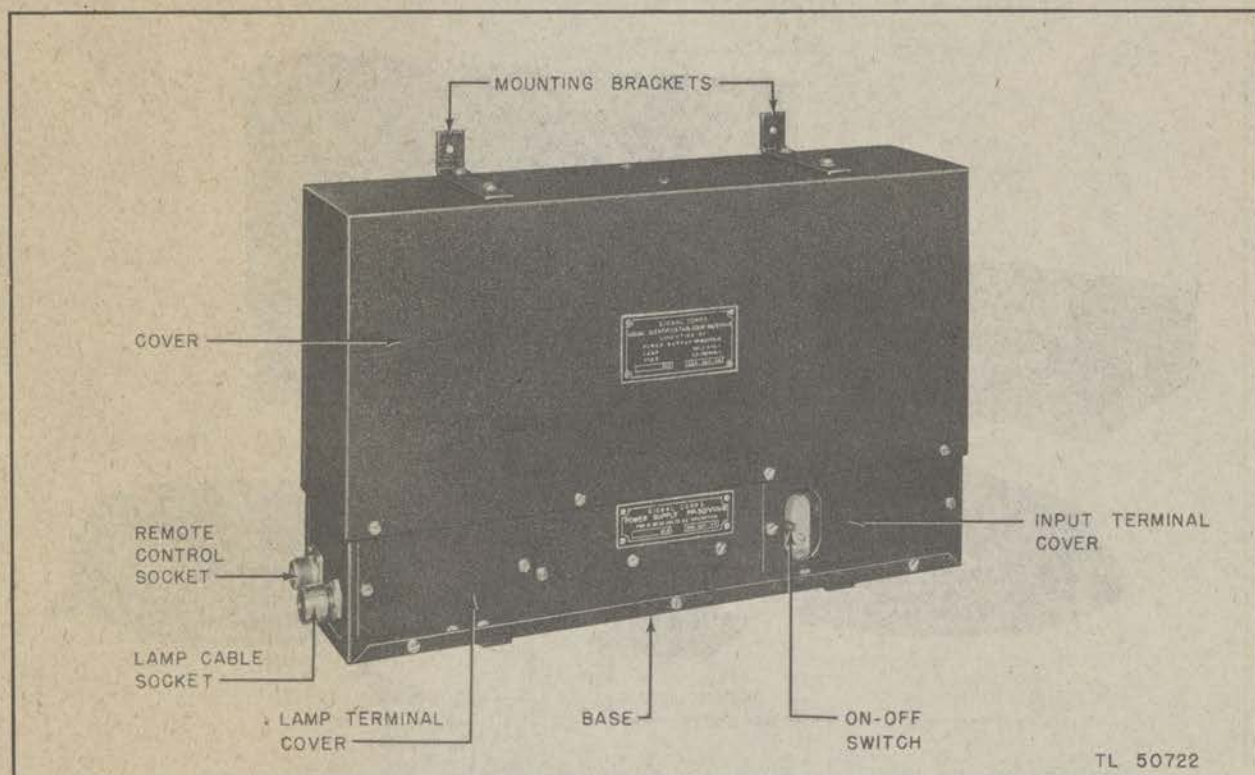

Figure 3. Voltage Converter PP-49/VVX-1 or PP-50/VVX-1X.
AN/VVX-1 and AN/VVX-1X are identical in external appearance (fig. 3), since they are both inside a rectangular sheetsteel case with removable cover and base. The holes through the cover and base are used for attaching the mounting brackets supplied with the equipment. The chassis is a rectangular shallow case. On the right-hand side of the front of the chassis, an input terminal cover is mounted over a recessed panel which contains the ON-OFF switch, a fuse receptacle, and the input terminal. On the left-hand side of the chassis front, a lamp terminal cover is fastened over another recessed panel on which is mounted the output terminal block. A large hole on the end of the chassis nearest the input terminals permits the input cable to be inserted and attached to the terminals. On the other end a cable clamp is provided to hold the lamp cable in place. A 2-pin socket on the same end of the chassis provides a means for attaching a remote-control trigger device. The voltage converter unit steps up the input voltage to approximately 2,000 volts direct current.
a. Converter mounting brackets are supplied in a set of four. They are steel rods bent at right angles, $4\frac{1}{8}$ inches long, with a $1\frac{3}{16}$ -inch vertical portion. The brackets each have two mounting holes which correspond to the mounting holes on the converter unit. Two of the rods are fastened to the top of the Voltage Converter PP-49/VVX-1 or PP-50/VVX-1X, and two are mounted on the base (fig. 3).
f. Remove lamp terminal cover (fig. 3).
n. Unless a remote control device is available, no connection is made to the remote control socket on the left-hand end of the chassis alongside the lamp cable socket (fig. 3).